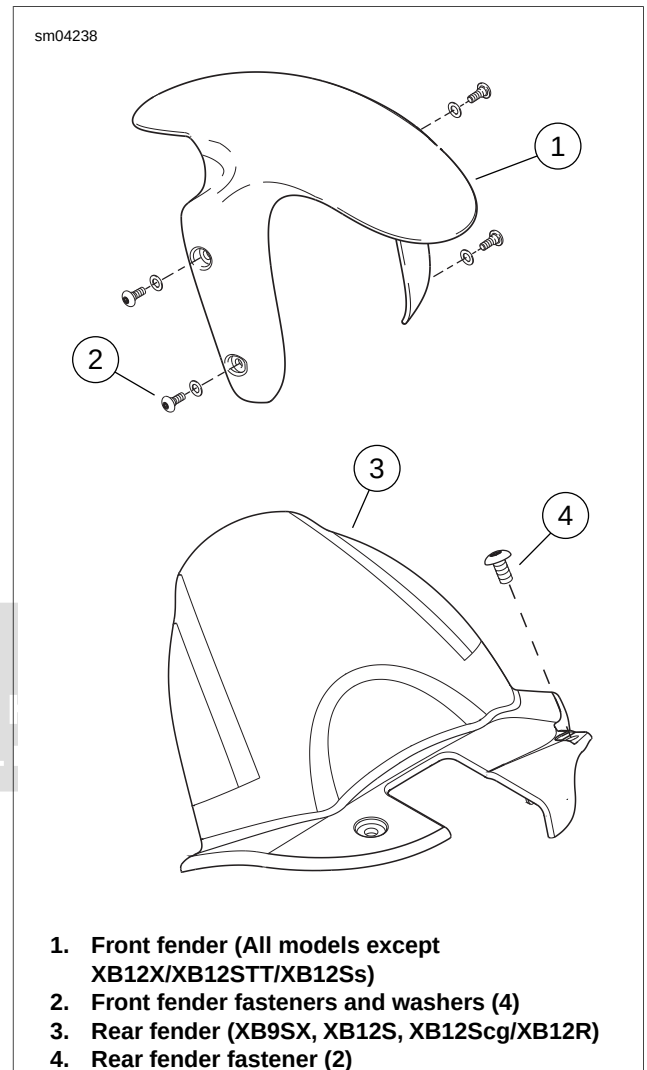

Figure 2-70. Front and Rear Fender: All Models except XB12X/XB12STT/XB12Ss
1. See Figure 2-70. Remove fasteners and washers (2) securing the front fender (1) to front forks.
2. Carefully remove front fender (1).
1. See Figure 2-70. Align front fender (1) to fender mounts on front forks.
2. Use LOCTITE 271 (red) on all fasteners and install front fender (1) with fasteners and washers (2) and tighten to 36-48 **in-lbs** (4-5.4 Nm).
1. See Figure 2-70. Remove fasteners and washers (4) securing the rear fender (3) to swingarm.
2. Remove rear fender (3).
1. See Figure 2-70. Align rear brake line in rear fender.
2. Install rear fender (3) with fasteners and washers (4) and tighten to 12-36 **in-lbs** (1-4 Nm).
1. See Figure 2-70.
- a. Remove fasteners (4) securing the rear fender (3) to swingarm.
- b. Remove fender fasteners (6).
1. See Figure 2-70. Align rear fender to the swingarm.
2. Install rear fender with fasteners (6) and tighten to 12-36 **in-lbs** (1.4-4.0 Nm).